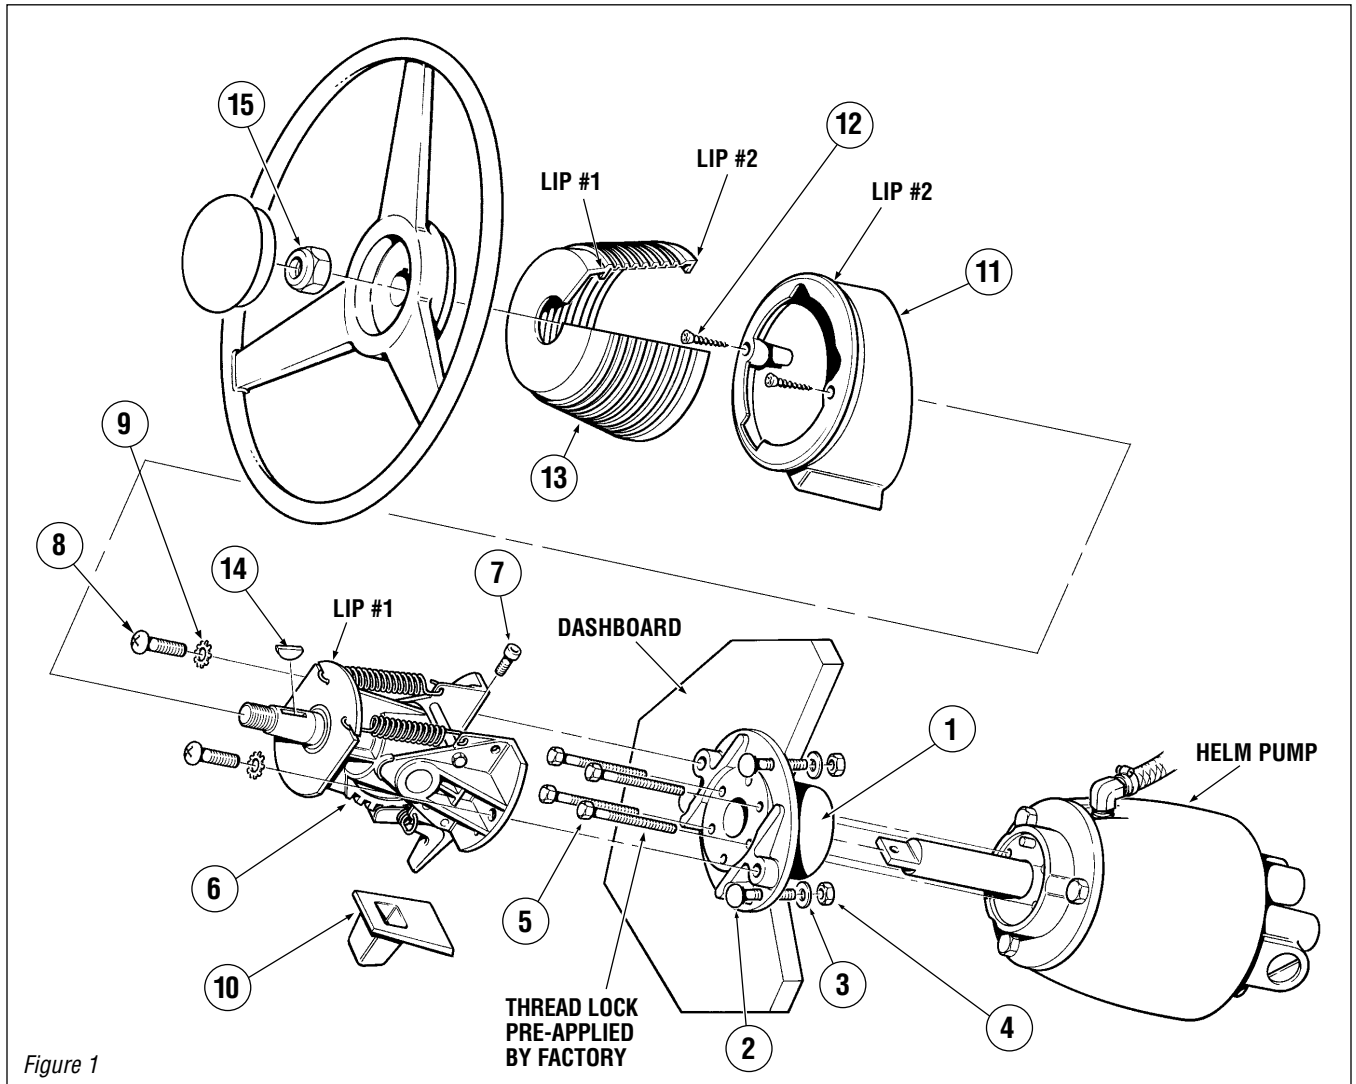

Figure 1
STEP 11. Install boot cover (Item 13) over lip 1 of the tilt mechanism and around lip 2 of the lower bezel. (shown in Figure 1).